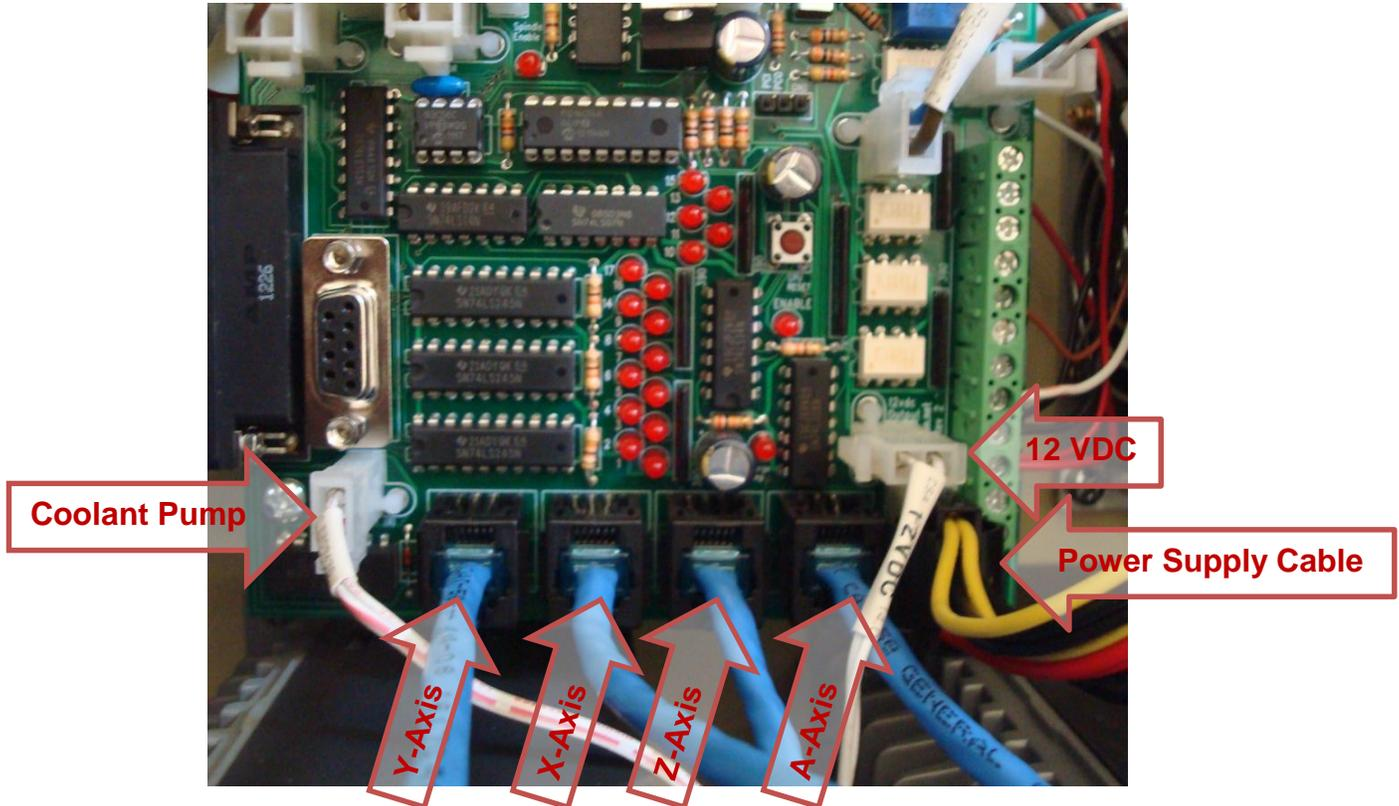

Figure 3-15
- 5) The BOB shown in Figure 3-15 include connections for a fourth axis and a PDB installation. Obviously, you will be disconnecting only the cables that apply to your BOB. Unplug the RJ126P6C Y, X, Z and A axis connectors, the two pin white connector for coolant pump, the 12 VDC two pin white connector and the power supply cable from the BOB. Make sure the cables that you remove are properly labeled so that they can be reinstalled later. Note that the Y-Axis cable is left of the X-Axis cable.